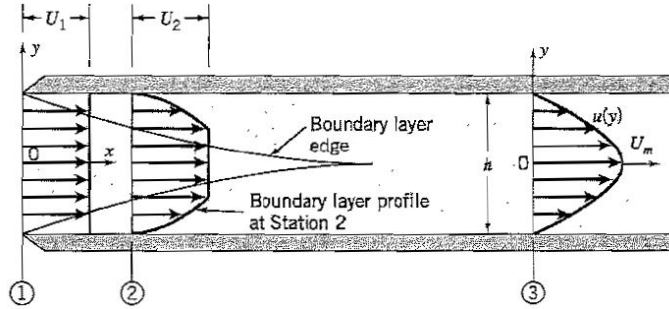

Figure P9.19
9.19 Air enters a long two-dimensional duct of constant height h , as shown in Figure P9.19. Identical boundary layers develop on the top and bottom surfaces. In the core region, outside the boundary layers, the flow is inviscid and no losses occur. The flow is steady and the density is constant.